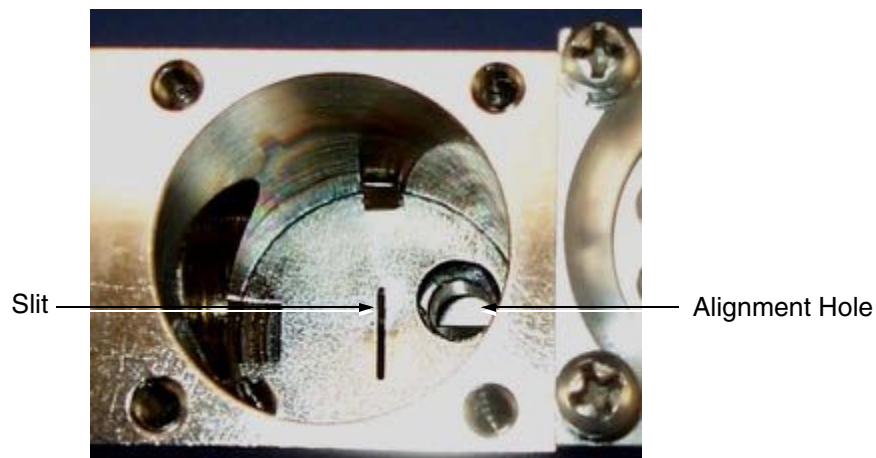

Figure 3-18 Ground Slit Plate Properly Inserted
2. Carefully place the ground slit plate into the cavity, being sure to align the slit so that it is perpendicular to the back and front of the spectrometer tube (Figure 3-18).